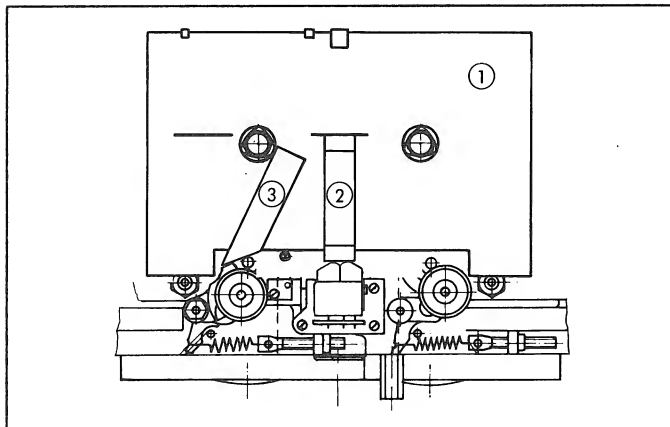
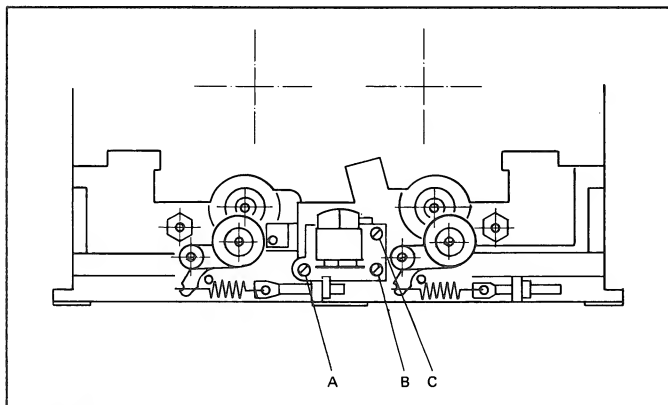

Fig. 3.5
Fig. 3.8
- Insert soundhead alignment gauge (part No. 46172) [I] (Fig. 3.5)
- Place slide for measuring the engaged length [2] with the square end against the soundheads (see Fig. 3.5)
- Adjust the height with the screws [B] and [C] in such a way that the slide [2] of the inserted gauge can be pushed through the tape guide (on the right of the soundhead) without lateral contact (Fig. 3.5).
- The movable headblock assembly is to be adjusted with screw [B] (Fig. 3.8) in such a way that the soundhead at the gap is perpendicular to the headblock gauge. (This can be checked with the slide [2] (Fig. 3.5). When the milled side faces the reproduce head, the air gap between the head and the slide should run parallel).
- Insert soundhead alignment gauge (part No. 46172) (Fig. 3.5).